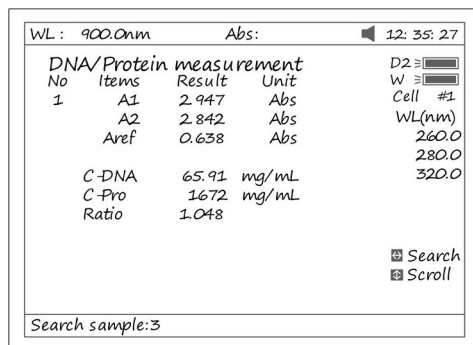

Fig 66
7. Press the key [<] or [>] for searching. Input the sample number (Fig 66), the result will be displayed on the screen. Press the key [^] or [v] to browse the test results one by one.